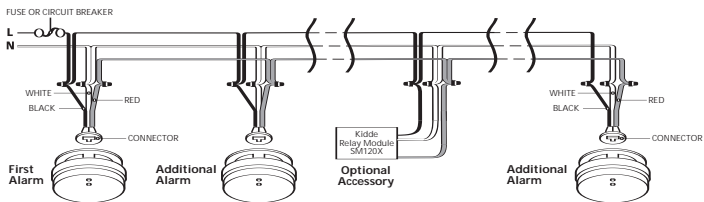
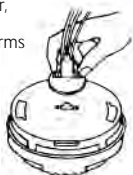

FIGURE 4 INTERCONNECT WIRING DIAGRAM
FIGURE 6
- Figure 4 illustrates interconnection wiring. Improper connection will result in damage to the alarm, failure to operate, or a shock hazard.
5. Plug the A.C. QUICK CONNECTOR into the back of the alarm (see Figure 6), making sure that the locks on the connector snap into place. Then push the excess wire back into the electrical box through the hole in the center of the trim ring.
To replace the battery, remove the alarm from the trim ring by rotating the alarm in the direction of the "OFF" arrow on the cover (see Section 3, Figure 4). To disconnect the A.C. power harness, squeeze the locking arms on the sides of the Quick Connector while pulling the connector away from the bottom of the alarm (see Section 3, Figure 6).